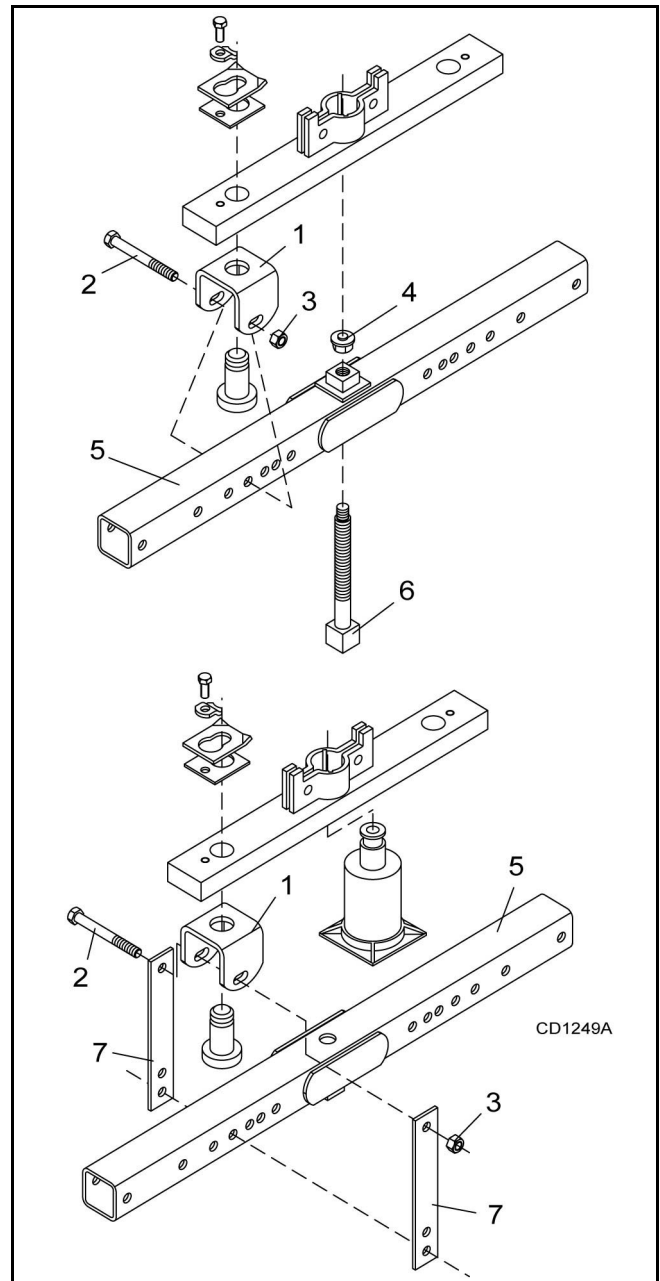

Figure 19. Crossbar Removal
NOTE: You will need to use either the puller screw (Item 6, Figure 19) or a small hydraulic jack to remove the crossbar.
4. **Refer to Figure 19.** Attach clevis (1) to each end of crossbar, using blade pins, spacers, keyhole plates, and blade pin clips.
5. Position tube assembly (5) with threaded nut toward crossbar for puller screw removal or down for hydraulic jack removal.